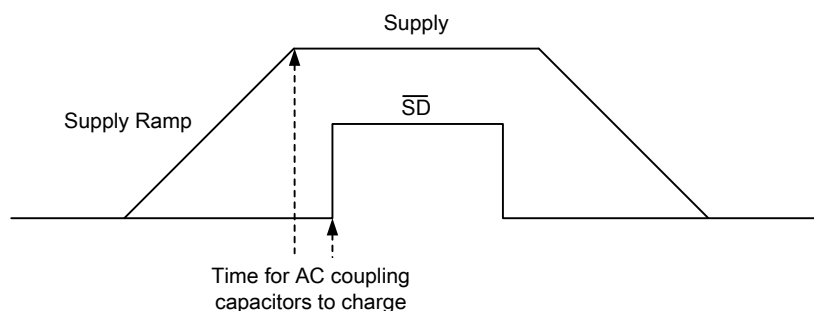

Figure 1. Power-Up Sequence
Pop-free power-up is ensured by keeping the $\overline{SD}$ (EN) (shutdown pin) low during power supply ramp up and down. The EN pin should be kept low until the input AC coupling capacitors are fully charged before asserting the EN pin high. This way proper precharge of the AC coupling is performed, and pop-free power-up is achieved. Figure 1 illustrates the preferred sequence.